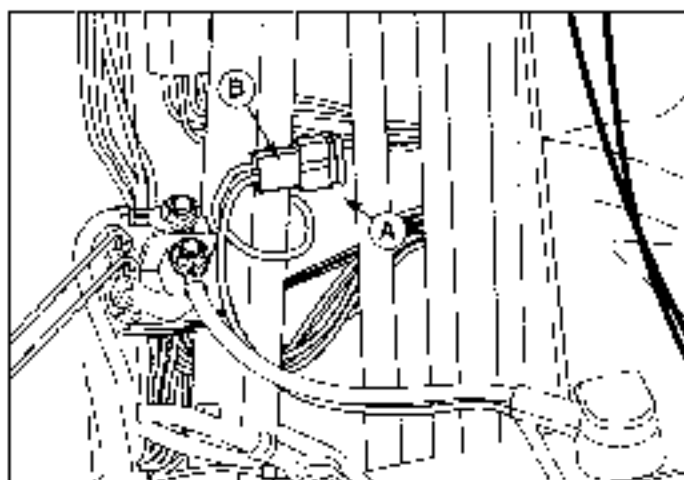
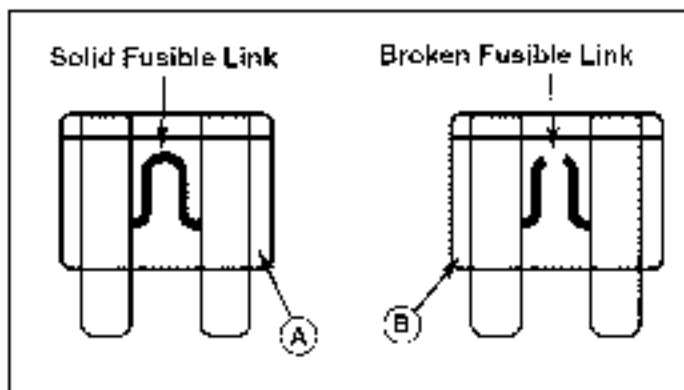

Figure 23. Fuse
Figure 24. Blade Type Fuse
1. Open the hood and locate the fuse holder (B, Figure 23) and fuse (A) attached to the steering tower.
2. Hold the fuse holder (B) and pull out the fuse (A).
3. Inspect the fuse for a broken connection (see Figure 24). Replace fuse if connection is broken. If you are not sure if connection is broken, replace fuse.
4. Hold the fuse holder (B) and insert new fuse (A) until it is seated properly.